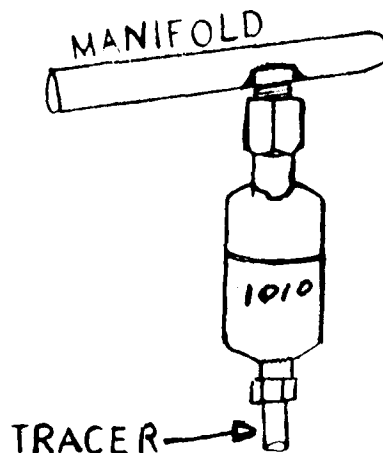

Figure 8
- G. 1010 with tube connection on Inlet and screwed connection on outlet (Figure 8)